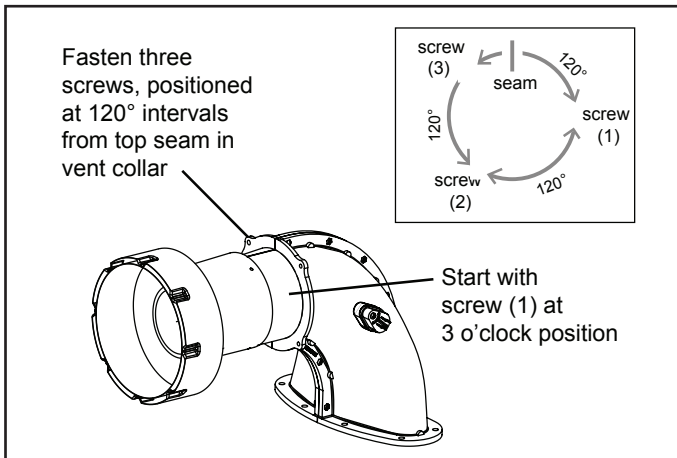

Figure 7. Correct position of screws on vent collar
5. Connect the 4 inch double-wall appliance adapter for category I or vent connector for category III to the flue collar and fasten with three (3) sheet metal screws, as shown in “Figure 7. Correct position of screws on vent collar” on page 12.
NOTE: It is important to position the three screws so the seal in the flue collar is not compromised. Begin with first screw at 3 o'clock position from top of the flue collar seam. Install screws 2 and 3 in positions 120 degrees apart. See "Figure 7. Correct position of screws on vent collar" on page 12